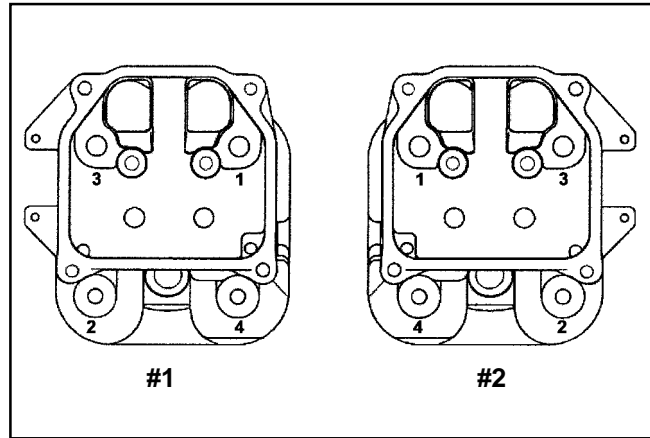

Figure 11-42. Cylinder Head Fastener Torque Sequence.
4. Torque the hex. flange screws in two stages; first to **22.6 N·m (200 in. lb.)**, then finally to **41.8 N·m (370 in. lb.)**, following the sequence in Figure 11-42.
6. Lightly lubricate the exposed (upper) threads of the studs with engine oil. Install a flat washer and hex. nut onto each of the mounting studs. Torque the hex. nuts in two stages; first to **16.9 N-m (150 in. lb.)**, then finally to **33.9 N-m (300 in. lb.)**, following the sequence in Figure 11-42.